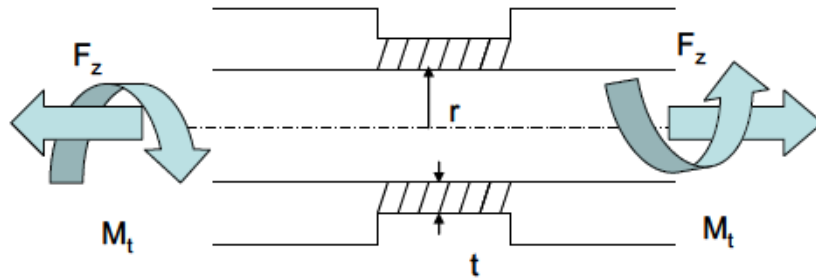

Fig. 2. Torsion tube
- The notched torsion tube under combined loading is shown in Fig. 2. Find the state of stress in the thin shaded section. Assume the stresses do not vary in that section. Compute the stresses and draw the stress element. Compute the expression for principal stresses. Also if the yield stress is Y ; write down the Tresca and VonMises criteria for the given loading. (Hint: assume $r \gg t$)